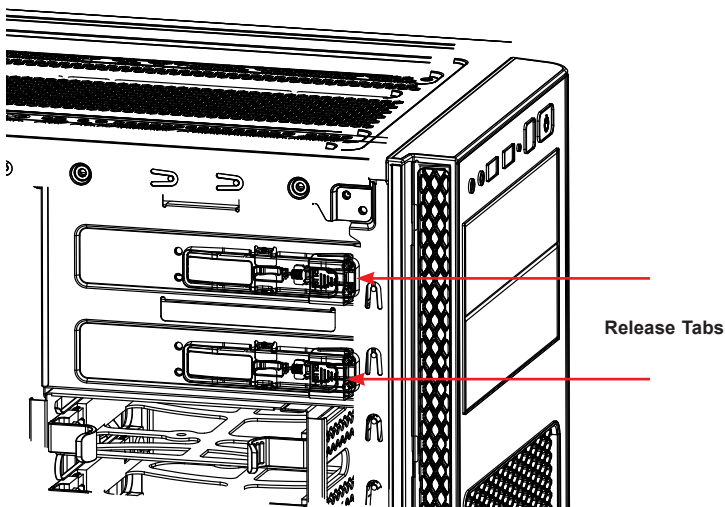

Figure 3-5. Release Tabs for the Drive Tray
2. Locate and press the release tab (Figure 3-5) for the drive tray in which you want to place the drive.